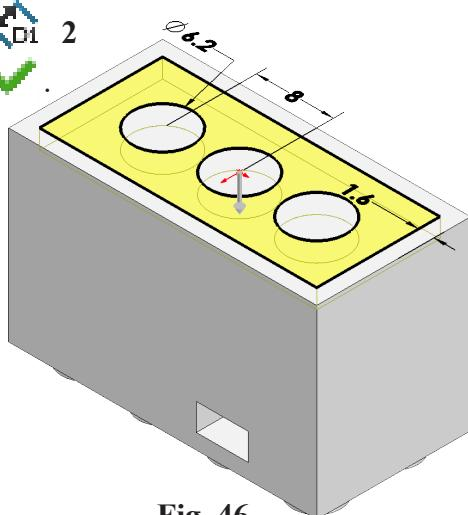

Fig. 46
Step 15. Rotate view to bottom, Fig. 46. To rotate view, click Isometric  on the Standard